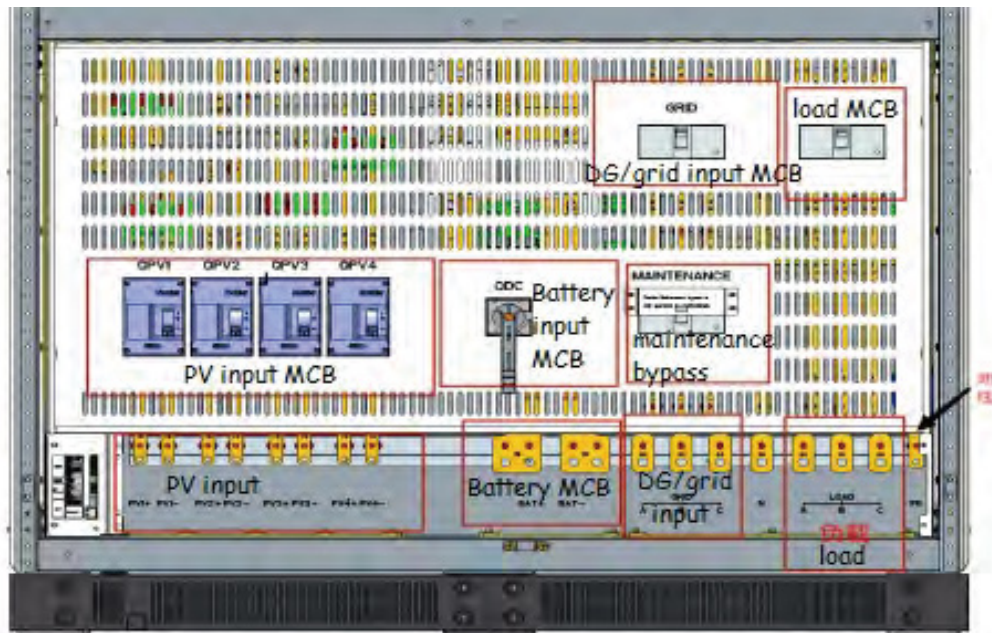

Figure 7-1 CE input and output figure
(1) Confirm the photovoltaic input, and close the photovoltaic input switches QPV1 and QPV2 in Figure 7-1. After closing the PV input switch, if the monitor screen was black before, the monitor screen will start running at this time. (When photovoltaic power is transmitted, each photovoltaic channel must be measured to prevent short circuit).
The maintenance bypass circuit breaker (MAINTENANCE) in Figure 7-1 is normally in the off state. The maintenance bypass is to ensure that the load is not powered off when the CE converter is overhauled or faulty (provided that the grid is powered), and the maintenance bypass is closed. After that, connect the diesel generator or grid to the load.